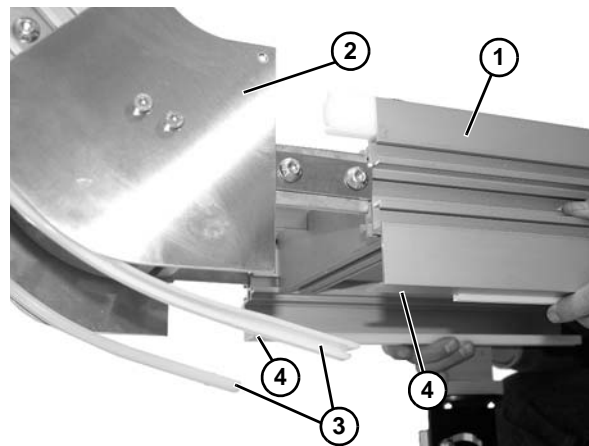

Figure 8
1. Attach lower frame (**Figure 8, item 1**) to lower knuckle (**Figure 8, item 2**) taking care to install both lower wearstrips (**Figure 8, item 3**) onto frame channels (**Figure 8, item 4**).